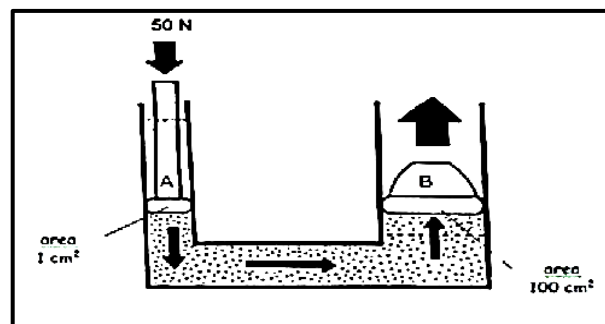

FIGURE 4.12
- 4.12 The hydraulic system shown in FIGURE 4.12 below is used to lift a load. What is the pressure exerted on piston **A**? Given: the area of piston A is 1 cm^2 .